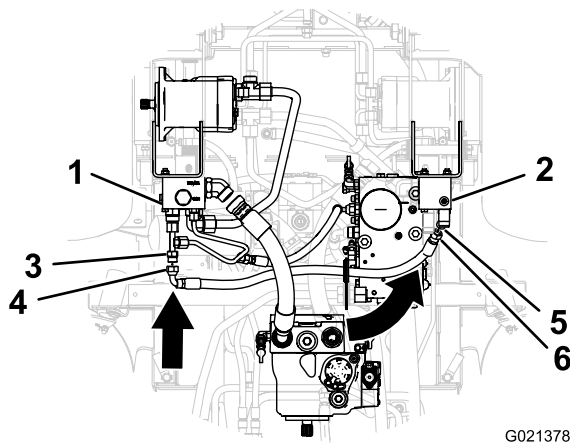

Figure 14
2. Align the 90° fitting of the cross hose with the straight-threaded fitting of the T-fitting (Figure 14).
3. Align the straight fitting of the cross hose with the 45° hydraulic fitting in the rear-traction manifold (Figure 14).